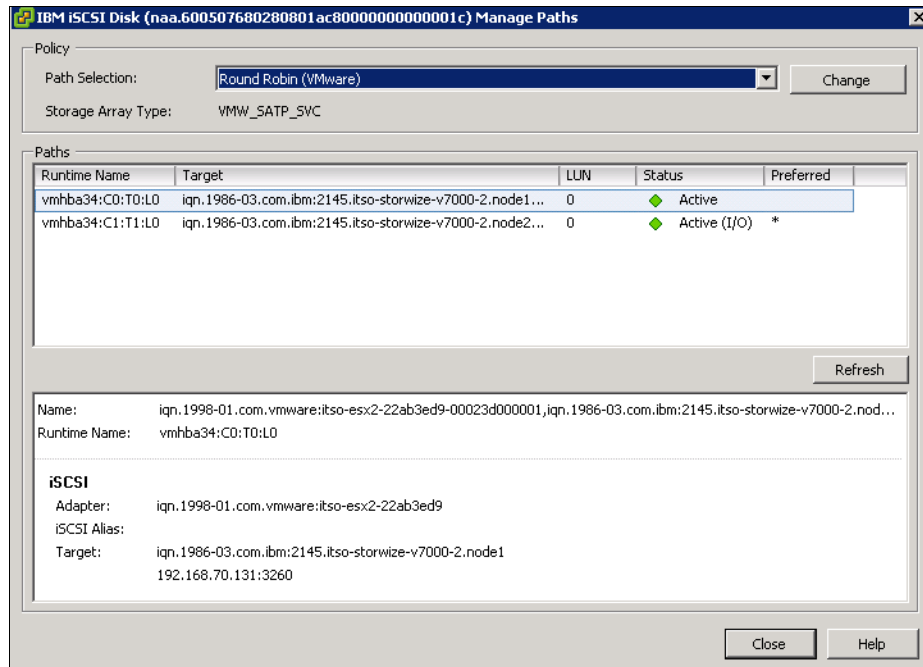

Figure 12-60 Change the multipath policy
14. Click **Manage Paths**, select **Round Robin** as the multipath policy (Figure 12-60), and click **Change**.